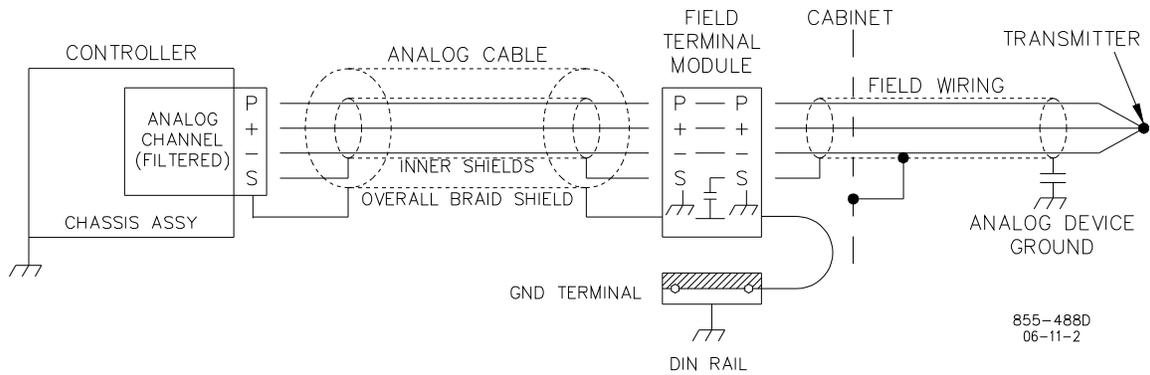

Figure 14-8. Discrete I/O Cable Grounding Diagram Example
- Ground the module to FTM cable shield, within 152 mm (6 inches) of I/O module (see Figure 14-8)